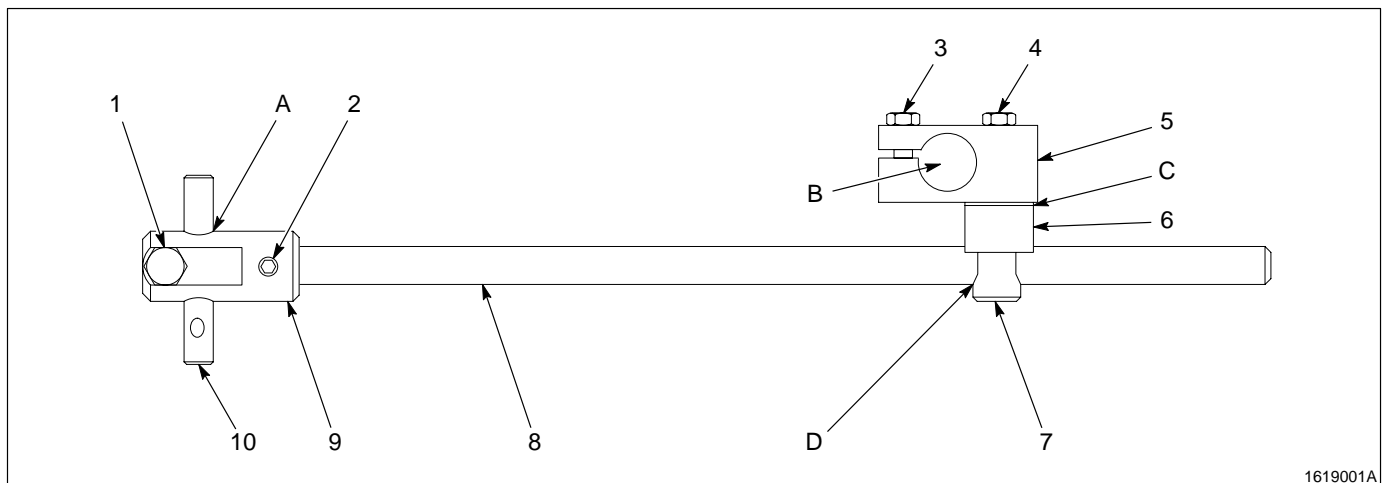

Fig. 1 Adjustable mounting assembly for automatic guns
See Figure 1. The adjustable mounting assembly for automatic guns consists of an adjusting rod (8) and a gun mounting rod (10). An adjustable mounting bracket (5) with clamp screw (3) at point B attaches the assembly to a stationary pipe or rod.
See Figure 1. Use the following chart to order replacement parts for your adjustable mounting assembly for automatic guns.